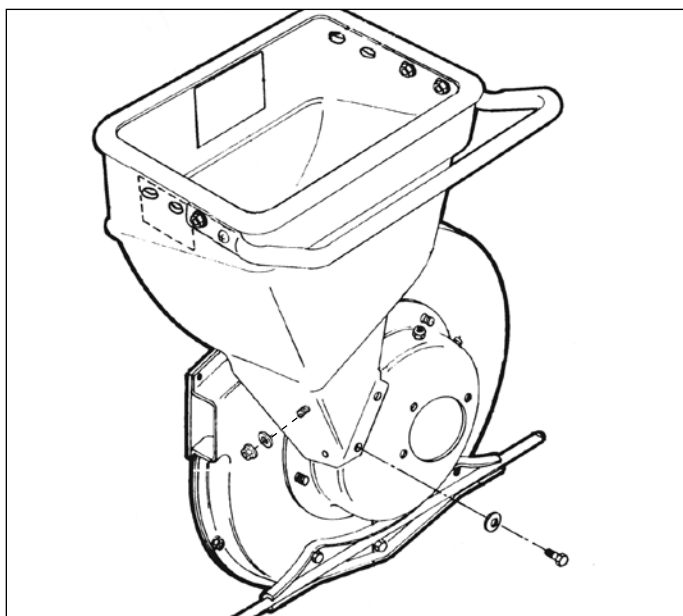

Figure 19. Attaching the Hopper
2. Secure the hopper to the rotor housing using two 5/16 x 1/2 hex head bolts, two 5/16 flat washers and hardware removed from step 1 (Figure 19). Do not tighten hardware at this time.